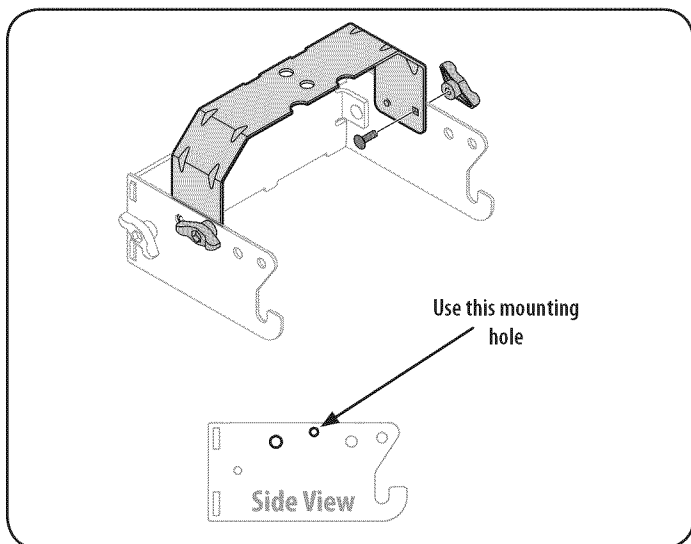

Figure 2
2. Flip over assembly and mount the hitch support bracket to the mounting assembly as shown in Figure 2.